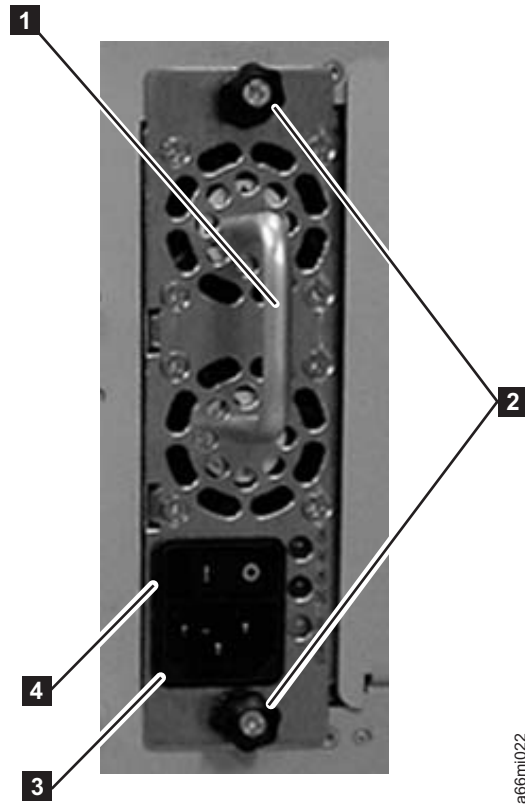

Figure 4-6. Power Supply
1. Loosen the two thumb screws (**2** in Figure 4-6) on the power supply by turning them counterclockwise.
2. To remove the power supply, grasp the handle (**1** in Figure 4-6) and slowly pull it toward you, while supporting it from underneath.